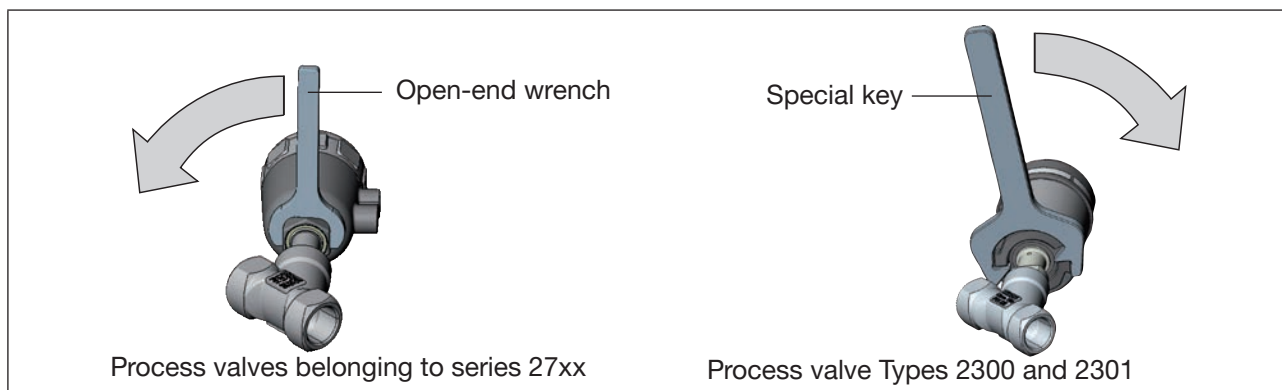

Figure 22: Specified direction of rotation and tool for turning the actuator module
- ▶ The actuator module must only be turned in the specified direction (see "Figure 22")!